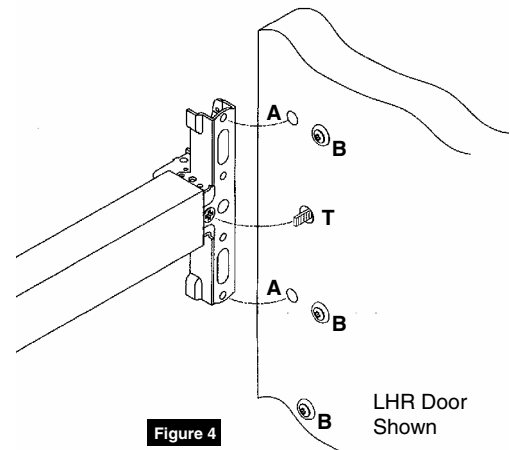

Figure 4
6. Mount trim to door. Fasten, finger tight only, with two (2) screws and washers seating on door as shown, plus one (1) engaged to pull bottom stud. (Figure 4)
8. Seat device so that trim tailpiece penetrates cam slot, as shown. (Figure 4) Continue as shown in device instructions.